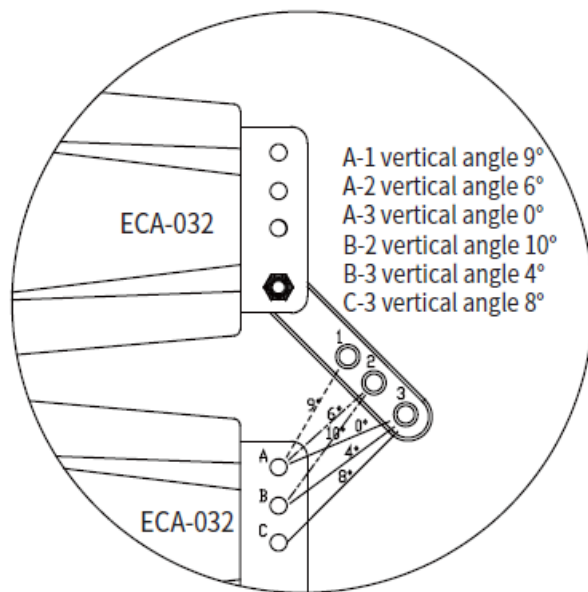

Figure 1
- Refer to Figures 1 and 2 in the user manual for installation instructions.
1. Connect one ECA-032 with another ECA-032 via connection parts at three points. Use the pin to adjust vertical angle 0°-10° in 6 steps (refer to figure 1).